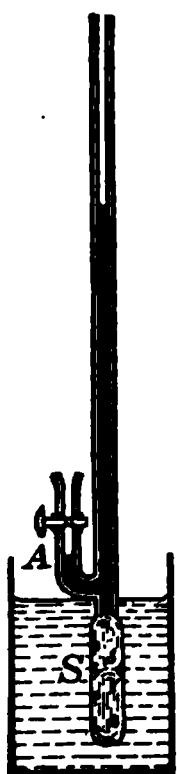

FIG. 77. — Osmosis of liquids.
81. Osmosis in Liquids. Osmosis occurs not only in gases but also in liquids. Fig. 77 shows an apparatus that is very convenient for showing that liquids diffuse through a membrane.